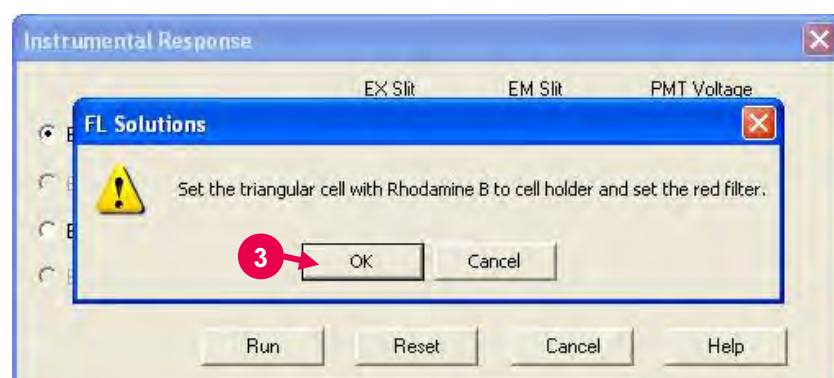

Fig. F-5
A message box "Set the triangular cell with Rhodamine B to cell holder and set the red filter." will appear. After setting the Rhodamine B and red filter, click the **OK** button. (Refer to ③ in Fig. F-5.)